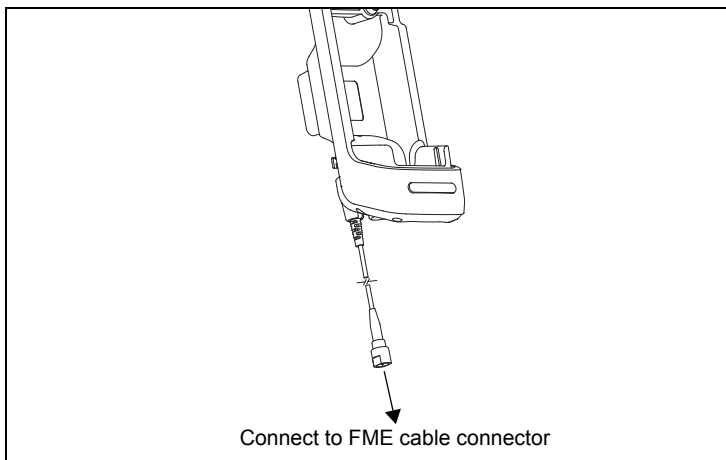

Figure 6: RF Cable Connection from Cradle to FME Cable Connector
6. Connect the 1 m FME cable from the duplexer "CAR KIT" input to the cradle's RF cable. See Figure 6.